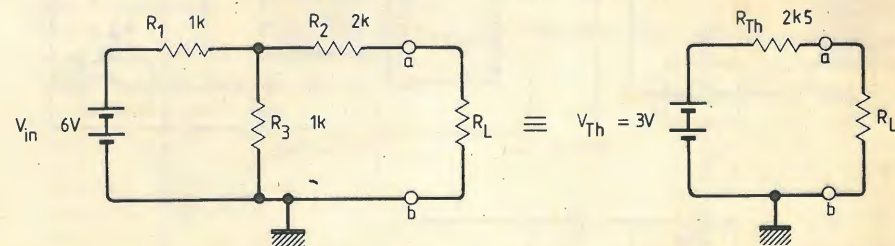

Fig. 3. Making use of the Thévenin theorem; both circuits have the same responses at the output terminals a-b.
Frequently in circuit analysis, we are interested in determining how the voltage varies at two terminals. In the amplifier circuit, for example, the effect of changing the load resistor may be required. Thévenin's theorem reduces circuits using resistors, capacitors and inductors, along with voltage or current sources to a simple series circuit. To illustrate the theorem, the circuit in Fig. 3 is used as an example. To find the Thévenin voltage, denoted V_{TH} , first open the terminals a-b for the network on the right and then calculate the open circuit voltage without R_L connected. For this circuit, V_{TH} is found using the voltage divider
a-b with the voltage source shorted. For the circuit shown, R_{TH} is the parallel combination of R_1 and R_3 in series with R_2 and equals $2.5\text{k}\Omega$. If current sources are present in a circuit, they are opened (removed) when finding R_{TH} . For the Thévenin equivalent circuit in Fig. 3, it's easy now to calculate the output voltage across the terminals a-b as R_L varies. All that's needed is application of the voltage divider principle as discussed in the last section. More complex circuits are reduced in a similar manner, even though V_{TH} and R_{TH} may be more difficult to determine. But it's easier than the alternative of solving simultaneous loop equations for each different value of R_L .
- Question 5. If $R_2 = 1\text{k}$ instead of $2\text{k}\Omega$ in Fig. 3, what is the value of the Thévenin voltage V_{TH} ?
- Question 6. If $R_2 = 1\text{k}$ instead of $2\text{k}\Omega$ in Fig. 3, what is the value of the Thévenin resistance R_{TH} ?